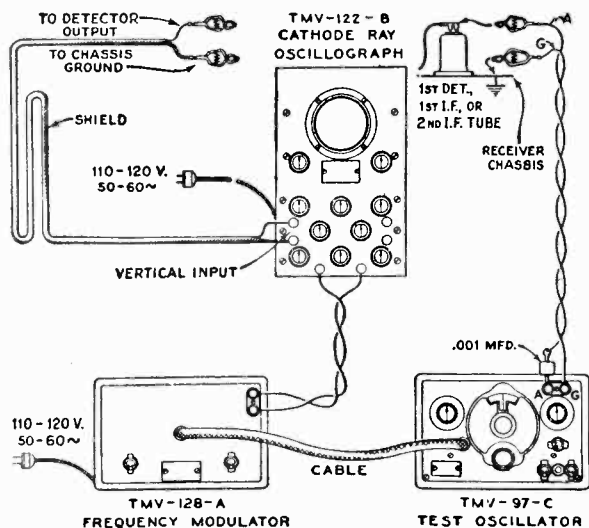
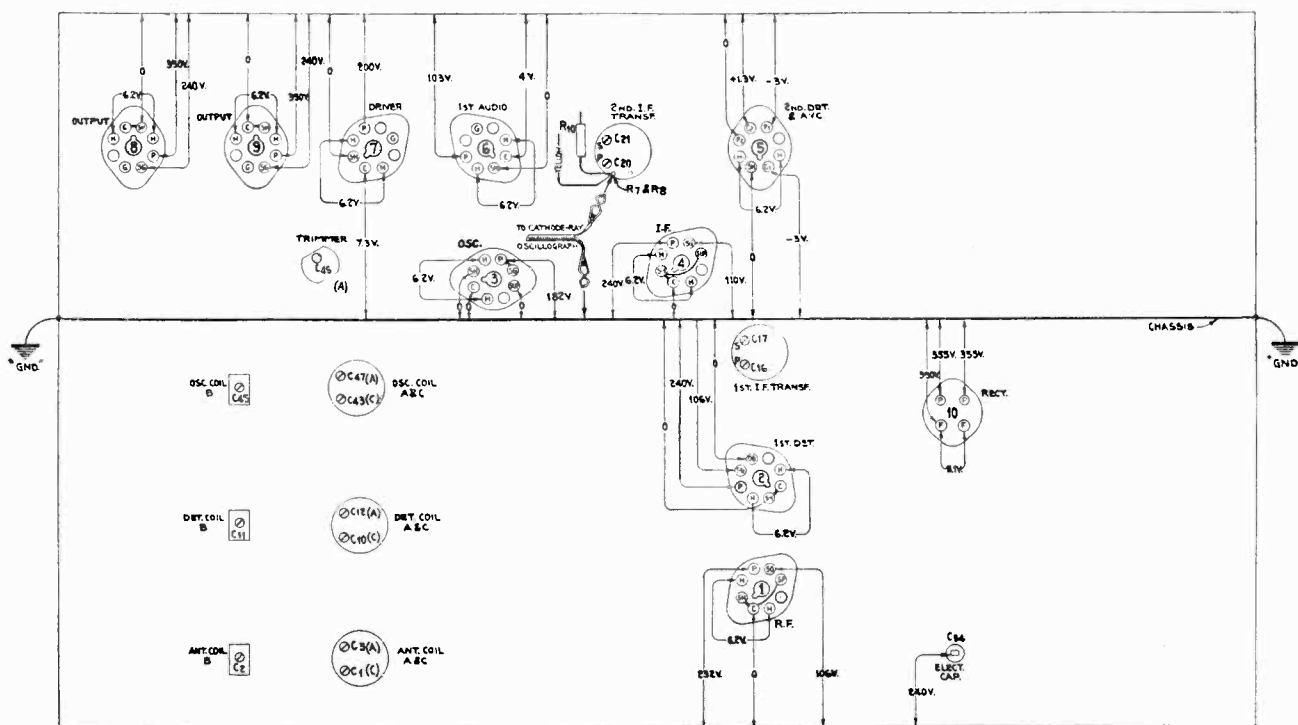

Figure 5—Alignment Apparatus Connections
Figure 6—Trimmer Locations and Radiotron Socket Voltages
The four trimmers of the two *i-f* transformers are located as shown by Figure 6. Each must be aligned to a basic frequency of 460 kc. The last transformer must be aligned firstly and the first transformer aligned secondly. For such a process, it is necessary to feed the output of the Full Range Oscillator to the stages in their order of alignment, adjusting the trimmers of each transformer and observing the effect at the second detector output on the Cathode-Ray Oscillograph. The proper point of connection of the Oscillograph is with its vertical "high" input terminal attached to the juncture of R-7 and R-8, as illustrated in Figure 6, and with the "0" or ground terminal to the chassis. The "Ext. Sync." terminals of the Oscillograph should be connected to the Frequency Modulator as shown by Figure 5. A .001 mfd. capacitor installed in series with the Oscillator "Ant." lead will prevent the voltages of the stage under alignment from becoming upset. The vertical "A" amplifier should be "On" for the ensuing adjustments and its gain control kept at maximum. For each adjustment, the Oscillator output must be regulated so that the image obtained on the Oscillograph screen will be of the minimum size convenient for accurate observation. Proceed further as follows:—
- (b) Attach the output of the test Oscillator between the control grid cap of the RCA-6K7 *i-f* tube and chassis ground as shown typically by Figure 5. Tune the Oscillator to 460 kc. and set its modulation switch to "On." Regulate its output until the signal produces a wave pattern on the Oscillograph screen, adjusting the Oscillograph controls to give a shape which is convenient for peak indications. Cause the image to stand still on the screen by manipulation of the frequency and synchronizing controls. Then carefully tune the two trimmers C-20 and C-21 of the second *i-f* transformer to produce maximum amplitude (vertical deflection) of the oscillographic image. Under this condition the transformer will be sharply resonated to 460 kc.
- (c) The Frequency Modulator should then be placed in operation and interconnected with the Full Range Oscillator by means of the special shielded patch cord. Figure 5 shows the proper arrangement. Set the Frequency Modulator sweep range switch to its "Lo" position and turn the Oscillator modulation switch to "Off." Change the timing control of the Oscillograph to "Ext." and place the range switch to its No. 2 position. Then carefully shift the tuning of the oscillator so as to increase its frequency, until two distinct and similar waves appear on the Oscillograph screen and become exactly coincident at their highest points. This condition will be found to occur at an Oscillator setting of approximately 540 kc. The curves will be identical in shape but appearing in reversed positions. Adjust the frequency control of the Oscillograph in order to cause the waves to conform with the above requirement and to make them remain motionless on the screen. This will require a setting of approximately  $\frac{1}{2}$  clockwise rotation of the frequency control. The trimmers C-20 and C-21 should then be re-adjusted so that the two curves move together and become exactly coincident throughout their lengths, maintaining the maximum amplitude at which this condition can be brought about.
Locations of the various antenna, detector and oscillator coil trimmers are shown by Figure 6. The test Oscillator should be removed from connection with
sary to have the timing control of the Oscillograph on "Int." for this operation. After each trimmer has been peaked, the Oscillograph timing control should be set to "Ext." and the Frequency Modulator placed into operation with its connections to the Oscillator and Oscillograph made in accordance with Figure 5. Turn the modulation switch of the Oscillator to "Off" and retune the Oscillator (increase frequency) until the forward and reverse waves show on the Oscillograph and become coincident at their highest points. Adjust the trimmers C-47, C-12 and C-3 again, setting each to the point which produces the best coincidence and maximum amplitude of the wave images.
The voltage values indicated from the Radiotron socket contacts to chassis on Figure 6 will serve to assist in the location of causes for faulty operation. Each value as specified should hold within  $\pm 20\%$  when the receiver is normally operative at its rated supply voltage. Variations in excess of this limit will usually be indicative of trouble in the basic circuits. The voltages given are actual operating values and do not allow for inaccuracies which may be caused by the loading effect of a voltmeter's internal resistance. This resistance should be duly considered for all readings. The amount of circuit resistance shunting the meter during measurement will determine the accuracy to be obtained, the error increasing as the meter resistance becomes comparable to or less than the circuit resistance. For the majority of readings, a meter having an internal resistance of 1000 ohms per volt will be satisfactory when the range used for each reading is chosen as high as possible consistent with good readability.